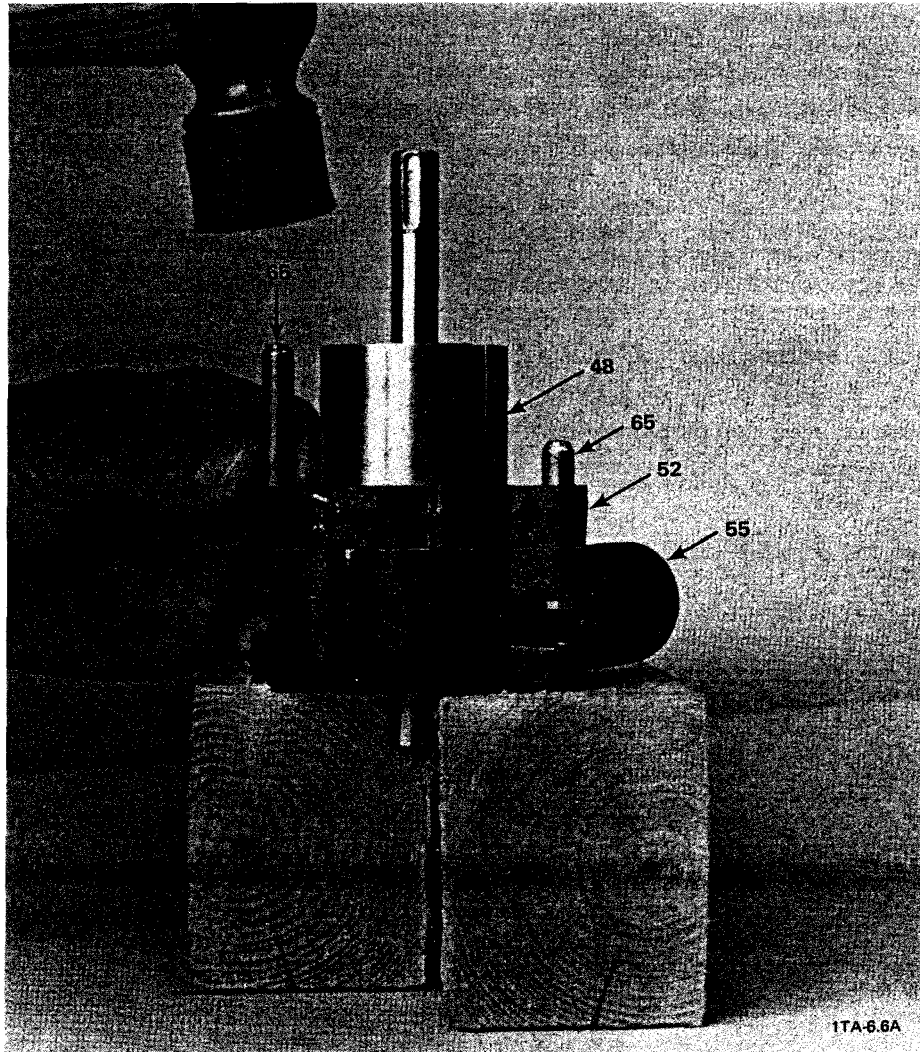
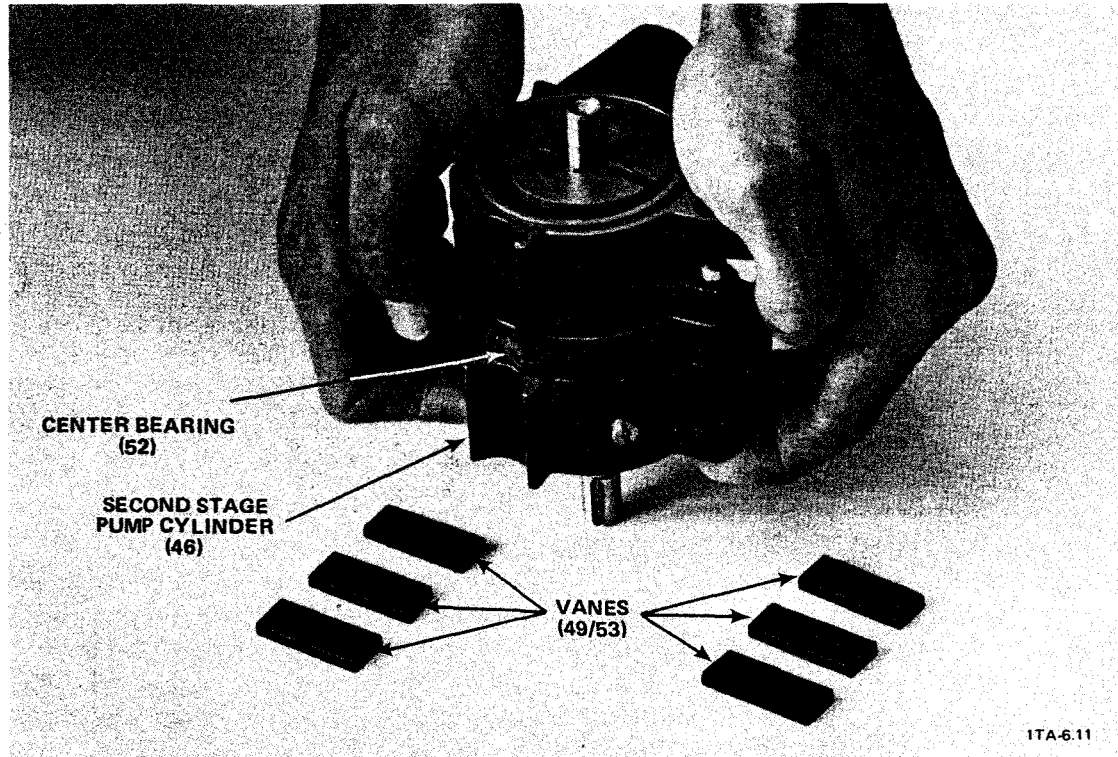
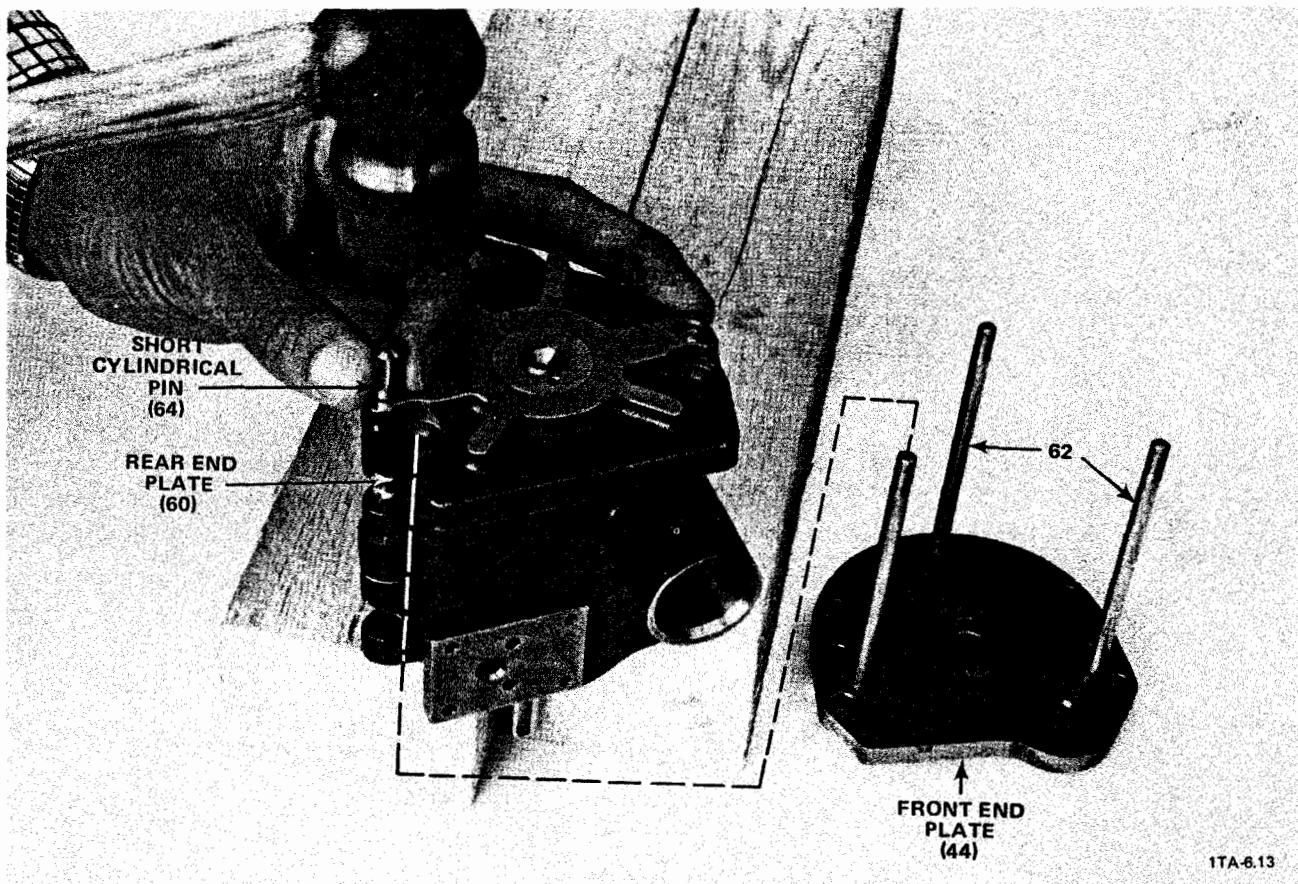
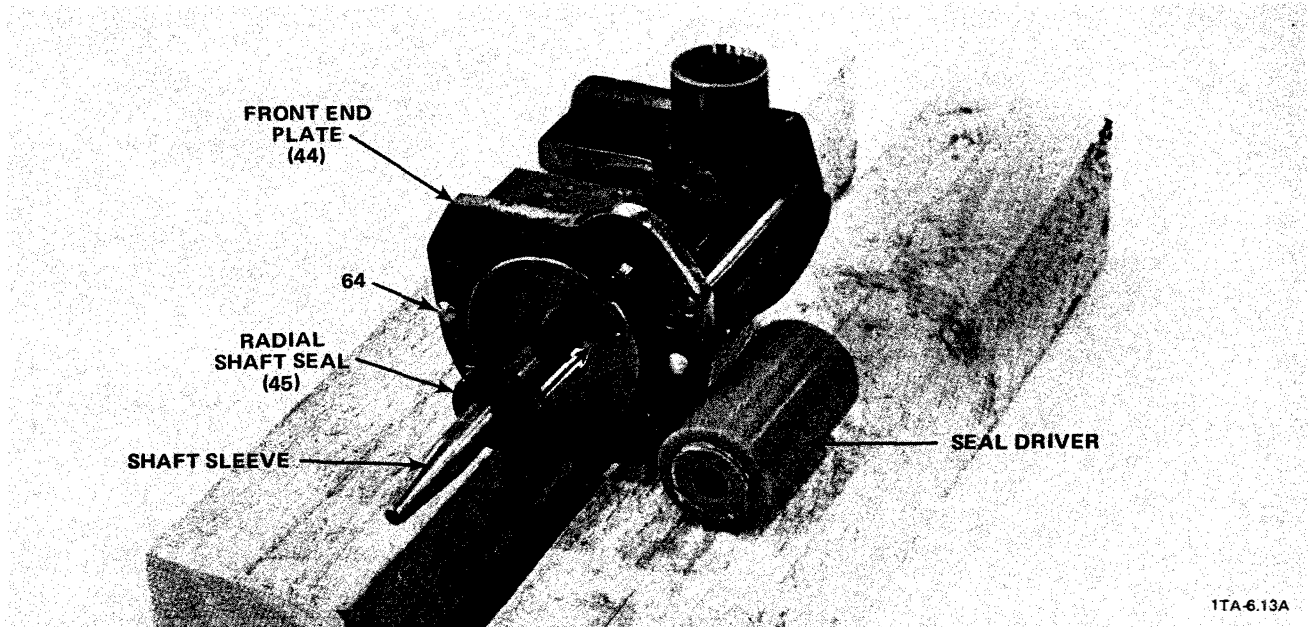

Figure 5-19. Driving the Long Cylindrical Pins that Align the HV Cylinder and the Center Bearing (D2A Pump Model Shown)
Figure 5-20. Pulling the Second Stage Pump Cylinder Tight Against the Center Bearing (D2A Pump Model Shown)
Figure 5-21. Driving the Short Cylindrical Pins that Align the Rear End Plate and the HV Cylinder (D2A Pump Model Shown)
Figure 5-22. Using a Shaft Sleeve to Install the Radial Shaft Seal into the Front End Plate (D2A Pump Model Shown)
**Method (1)** – Insert the new seal into its slot in the rear end plate. Using a hammer and a seal driver (see Figure 5-22), recess the seal in the slot.
- a. Place the high vacuum (HV) stage cylinder (55) so that it is lying flat with the intake tube portion (the top) on the right facing away from you (see Figure 5-19). Fit an O-ring (47) into the O-ring groove on the cylinder (55) surface that is facing up.
- b. Attach the assembly that you put together in Step F-5 to the HV stage pump cylinder (55) as follows:
**Step F-6 b (Cont'd.)** (1) Take the Step F-5 assembly and insert its HV-stage end (the end that has two pulling holes on the outside end of the rotor) down into the HV stage cylinder (55) until the center bearing plate (52) rests against the HV stage cylinder (55) (see Figure 5-19).
(2) Align the two alignment holes in the center bearing plate (52) with the two upper alignment holes on the HV stage cylinder (55). (See Figure 5-19).
(3) **NOTE:** When driving the two long cylindrical pins (65) into the alignment holes, the flat end (nonbeveled end) of the pins (65) should face the HV cylinder (55). The HV cylinder is the one with the intake tube portion.
**REQUIRED ACTION:** Using a rubber hammer, hit the beveled end of the pins to drive the two long cylindrical pins (65) down through the two alignment holes in the center bearing plate (52), then through the two upper alignment holes in the HV cylinder (55) until the flat end of each pin extends just out of each upper HV-cylinder alignment hole (see Figure 5-19).
(4) Ensure that the center bearing plate (52) and the HV stage cylinder (55) are tight against each other and that they remain tight throughout the module assembly sequence.
c. Place the second stage pump cylinder (46) so that it is lying flat with the top edge (the flat portion that has the screw holes, exhaust holes, and gas ballast hole) on the right facing away from you. Fit an O-ring (47) into the O-ring groove on the cylinder (46) surface that is facing up.
**For D30A, D60A, and D90A pump models,** the second stage cylinder (46) should be lying flat on an open vice or other open support, so that the shaft can be inserted through it in Step d(3).
d. Attach the assembly that you put together in Step b(3) to the second stage pump cylinder as follows (see Figure 5-20):
(1) Take the assembly from Step b(3) and insert its second-stage end (the end that has the longer section of the shaft) down into the second stage pump cylinder (46).
**REQUIRED ACTION:** Align the beveled end of the two long cylindrical pins (65) (the pins which extend out of the alignment holes in the center bearing plate (52)) with the two upper alignment holes in the second stage cylinder (46).
(3) **NOTE:** When Step d(3) is completed, the beveled ends of the two long cylindrical pins (65) should extend most of the way through the upper alignment holes in the second stage pump cylinder (46).
**REQUIRED ACTION:** For the D2A, D4A, D8A, and D16A pump models, while keeping the assembly vertical, pull the second stage cylinder (46) straight up over the long cylindrical pins (65) until it is tight against the center bearing plate (52) (see Figure 5-20).
**For the D30A, D60A, and D90A pump models only,** while keeping the assembly vertical, push the Step b(3) assembly straight down until it is tight against the second stage cylinder (46).
(4) Ensure that the cylinders (46/55) and center bearing plate (52) remain tight against each other throughout the module assembly sequence.
e. **NOTE:** If you are reusing the old vanes (53), make sure that each used vane is replaced in its same rotor slot. Also make sure that the orientation of each vane is the same as it was before disassembly so that each used vane is not turned end-for-end in its slot.
**NOTE:** Be sure that the slotted edge of the vanes (53) faces the center of the rotor (54) when inserting the vanes into the rotor.
**NOTE:** For the D4A, D16A, D60A, and D90A pump models only, the high vacuum stage rotor (54) and vanes (53) are longer than the second stage rotor (48) and vanes (49). For these pump models, be sure to insert the longer vanes (53) into the high vacuum stage rotor (54).
**REQUIRED ACTION:** Repeat Step C-11, except assemble rather than disassemble, to insert the three vanes (53) into the slots in the high vacuum stage rotor (54).
- f. While keeping the partially assembled module vertical, fit an O-ring (47) into the O-ring groove on the HV-cylinder (55) surface that is facing up (see Figure 5-20).
- g. Attach the rear end plate (60) to the partially assembled module as follows:
- (1) **NOTE:** Be sure to attach the rear end plate (60) to the HV-stage end of the module. The HV pump cylinder (55) is the one with the intake tube portion.
**NOTE:** The side of the rear end plate (60) that has the bronze bushing faces out.
**REQUIRED ACTION:** While keeping the partially assembled module vertical, align the rear-end-plate bushing hole with the shaft. Slide the rear end plate (60) down over the shaft until the machined surface of the rear end plate fits tight against the HV stage cylinder (55).
- (2) Align the two alignment holes in the rear end plate (60) with the two alignment holes in the HV cylinder (55), then use a rubber hammer to drive two short cylindrical pins (64) until the pin ends are slightly recessed in their alignment holes in the rear end plate (60) (see Figure 5-21).
- h. Turn the partially assembled module over so that the other end faces up, then fit an O-ring (47) into the O-ring groove in the second stage pump cylinder (46).
**NOTE:** If you are reusing the old vanes (49), make sure that each used vane is replaced in its same rotor slot. Also make sure that the orientation of each vane is the same as it was before disassembly so that each used vane is not turned end-for-end in its slot.
**NOTE:** Be sure that the slotted edge of the vanes (49) faces the center of the rotor (48) when inserting the vanes into the rotor.